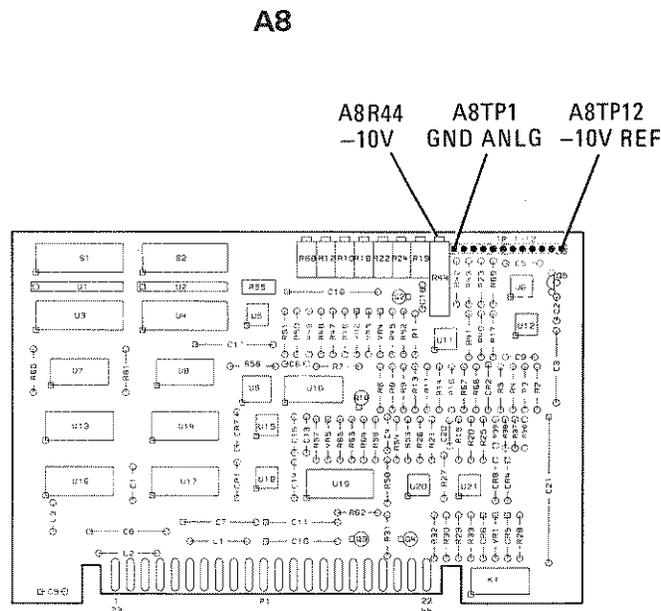

Figure 5-2. -10V Reference Adjustment Location
2. Adjust A8R44 (-10V) for a DVM reading of -10 ± 0.001 Vdc. Refer to Figure 5-2 for the locations of A8R44 and A8TP12.